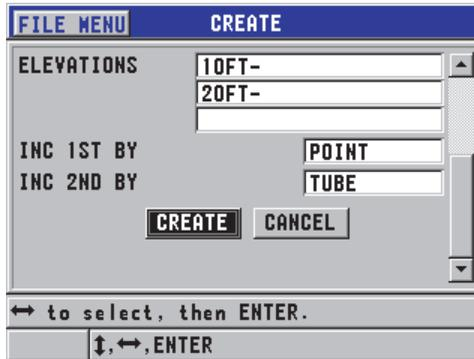

Figure 6-25 Configuring the ID range for a boiler data file type
3. In the second page of the **CREATE** screen (see Figure 6-25 on page 102):